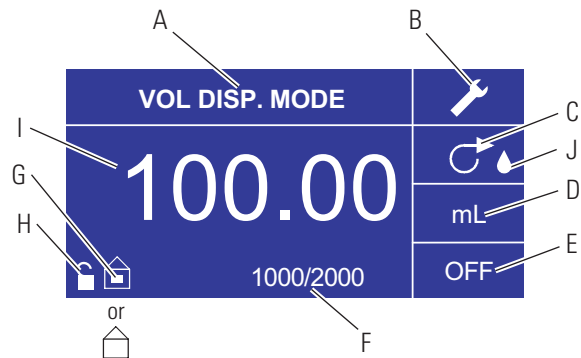

Figure 3-10. Volume Dispense Mode Screen
6. **Setting Pump OFF Time:** Use the directional pad and ENTER key to select OFF on the display (see position E, Figure 3-10) to enter the OFF TIME. Use the directional pad and ENTER key to set the pump rest time. The timer in the center of the screen will be highlighted, and using the UP/DOWN arrows will increase/decrease the farthest right digit of the time interval. If ENTER is pressed a second time while the timer is highlighted, the digits can be navigated individually using the UP/DOWN arrows; switch between digits using the LEFT/RIGHT arrows. After selecting an optimal OFF time, press ENTER again to validate. The drive will now rest for the time appearing in the center of the screen. **NOTE:** If the OFF Time is set to 00:00:00, the drive requires a START/STOP **input** from the keypad or the remote I/O Connector to start the next dispense.
7. **Setting Batch Size:** Use the directional pad and ENTER key to select the Batch Count icon from the operation screen (see position F, Figure 3-10). From Batch Count screen use the UP/DOWN arrows to select batch size. Press ENTER to validate batch size. When set to zero (0) the drive will run for an infinite number of cycles and the ∞ symbol is displayed. Select EXIT to return to drive operation screen.
9. **Reset Batch Count:** Use the directional pad and the ENTER key to select the BATCH COUNT icon (see position F, Figure 3-10). In the BATCH COUNT screen, select RESET and press the ENTER key to reset the batch count. Select EXIT to return to the COPY MODE OPERATION screen.